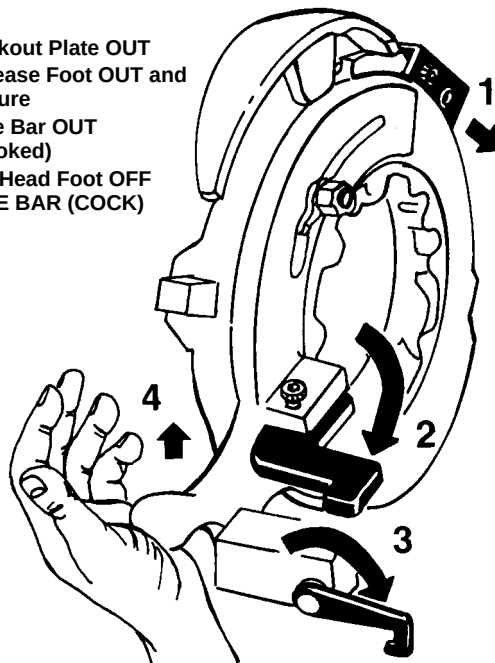

Figure 12 – Setting No. 714 or 914 Self-Opening Die Head for NPSM or BSPP Threads
1. Remove release foot screw from release foot pivot block. Unhook release foot spring from release foot. Rotate release foot out until hole in foot lines up with screw hole in pivot block. Reinsert screw until it engages release foot (Figures 12 & 16).
2. Position lockout plate (Figures 12 & 16).
3. Push carriage sine bar to far right end of carriage and rotate sine bar hook around until it engages the hole in end of carriage (Figures 12 & 16).
4. With die head in DOWN position, pick up cam locking plate handle until release handle (Figure 12, Step 4) engages notch.